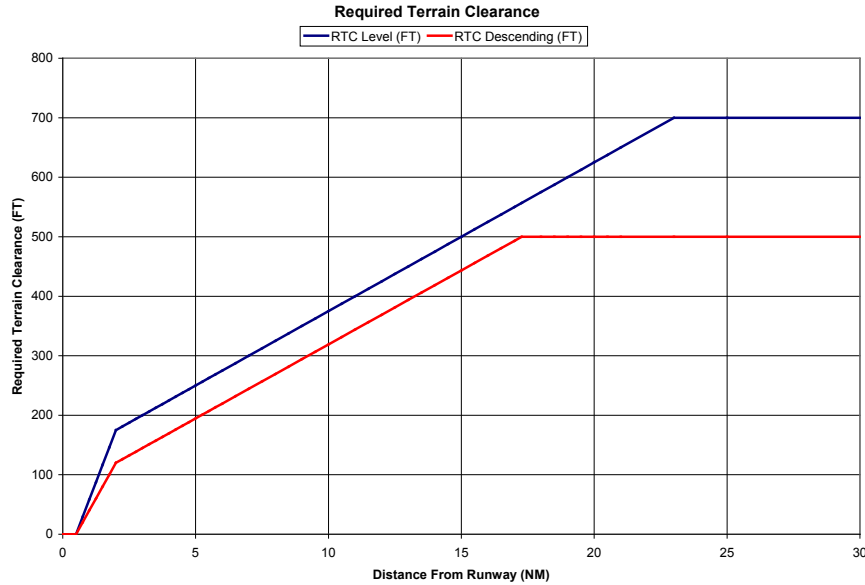

Figure 6-81 FLTA Minimum Terrain and Obstacle Values
**Reduced Required Terrain Clearance (RTC)** and **Reduced Required Obstacle Clearance (ROC)** alerts are issued when the aircraft flight path is above terrain, yet is projected to come within the minimum clearance values in Figure 6-81. When an RTC alert is issued, a potential impact point is displayed on the TAWS-B Page.
**Imminent Terrain Impact (ITI)** and **Imminent Obstacle Impact (IOI)** alerts are issued when the aircraft is below the elevation of a terrain or obstacle cell in the aircraft's projected path. ITI and IOI alerts are accompanied by a potential impact point displayed on the TAWS-B Page. The alert is annunciated when the projected vertical flight path is calculated to come within minimum clearance altitudes in Figure 6-81.